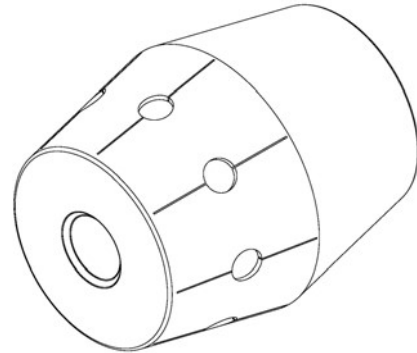
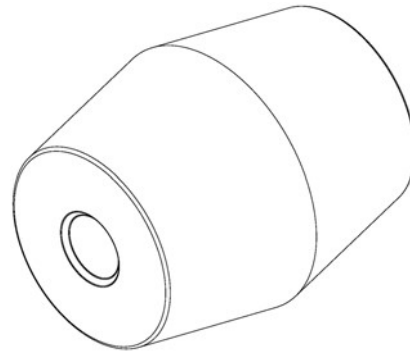

Figure 36 Energy Absorbing Cartridge – Type A
Figure 37 Energy Absorbing Cartridge – Type B
There are two types of Energy Absorbing Cartridges (EAC). Each EAC has a forward and rearward end. Type "A" EAC's (Figure 36) have eight (8) 3" [75mm] diameter holes around the circumference of the front half of the cylinder. Type "B" EAC's (Figure 37) have a solid cylinder wall with three (3) vent holes on the rearward end.